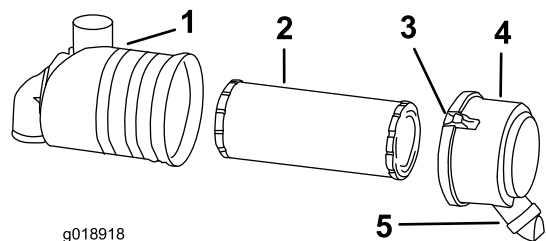

Figure 28
3. Release the latches on the air cleaner, and pull the air-cleaner housing off the air cleaner body (Figure 28).
1. Gently slide the primary filter out of the air cleaner body (Figure 28). Avoid knocking the filter into the side of the body.